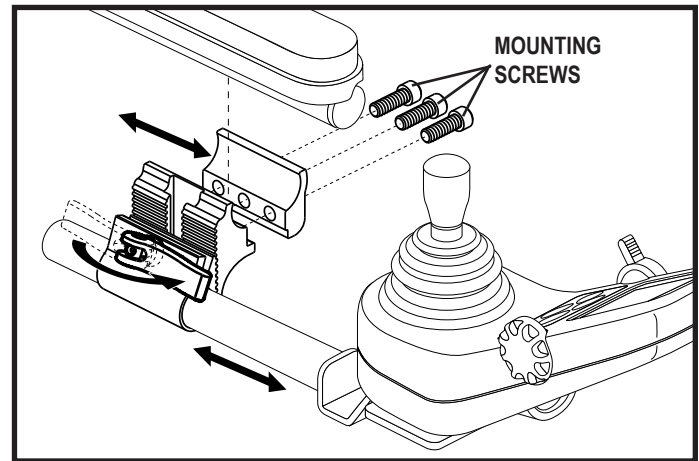

Figure 31. Controller Position – Depth
4. Loosen the mounting screws in the controller mounting block. **See figure 31.**